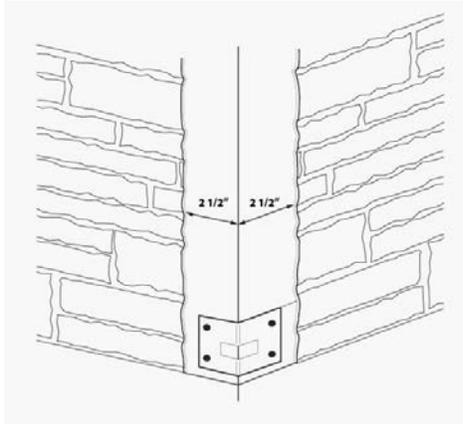

Figure 3
**STEP FOUR:** Working from left to right, slide the first panel left, butting it flush to the vinyl corner or for use with molded corners, leave a 2 1/2” to 3” gap from the corner of the wall to the edge of the installed panel (figure 3). Set the first panel gently onto the starter strip making sure to properly engage all installation fingers. Do not override the functioning, positive stop posts that are in-line with the installation fingers on the back of the panel.